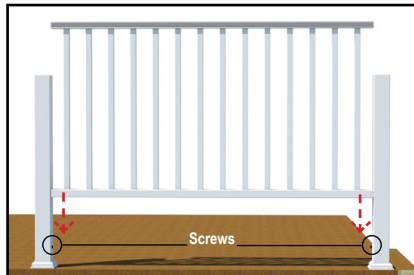

Fig. 11
- Drop the assembled railing section onto the four screws already installed on both posts. (See Fig. 11)